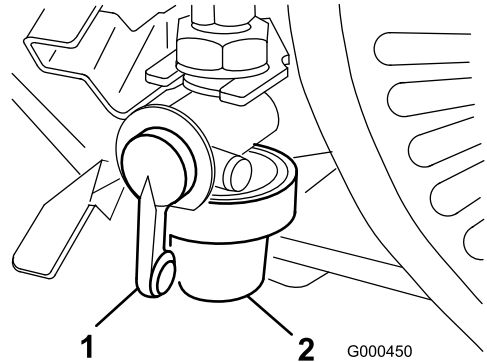

Figure 22
- Close the fuel shut off valve and unscrew the bowl from the filter body (Figure 22).